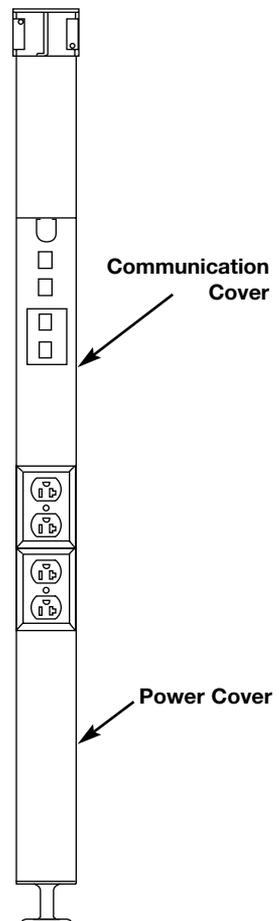

Figure 1
1. Remove power cover for electrical applications. Remove communication cover for data/phone applications (Fig. 1).